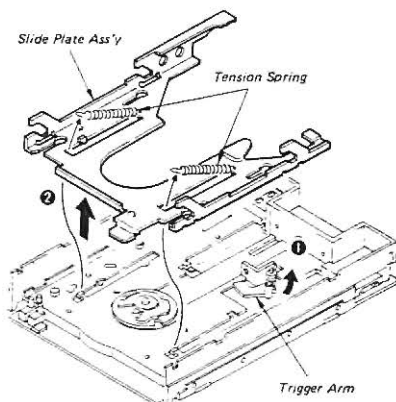

Fig. 4-7 Slide Plate Ass'y Replacement
- Slide the trigger arm to set the Disk In-mode as shown in Fig. 4-7.
- Remove the one end of Tension Springs on chassis ass'y and then take the Slide Plate Ass'y. (Refer to Fig. 4-7)
- While pushing the trigger arm, set the Slide Plate Ass'y into the location shown in Fig. 4-7.